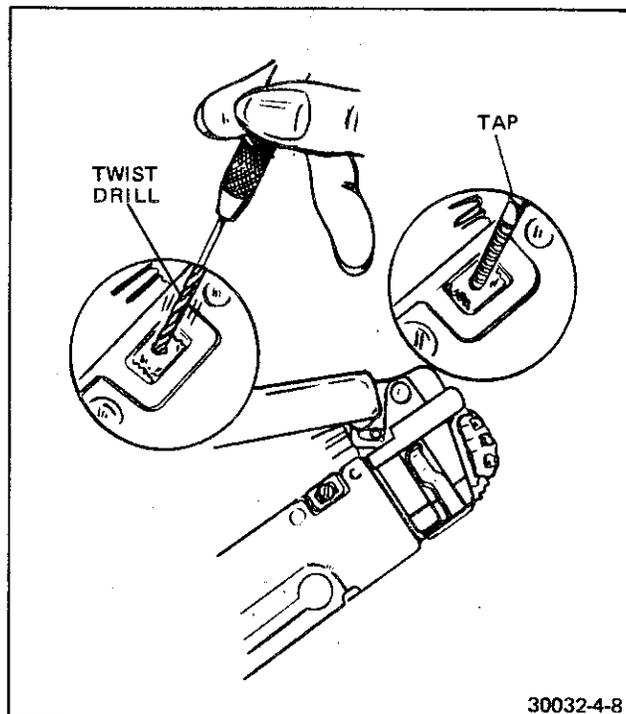

FIGURE 4-8 REPAIRING DAMAGED BOOT RETAINER TAB
- b. Use a No. 62 twist drill in a pin vise and drill a hole 1/8" deep, dead center in the boot retaining tab (Figure 4-8). Hold the boot retainer tightly between thumb and forefinger.